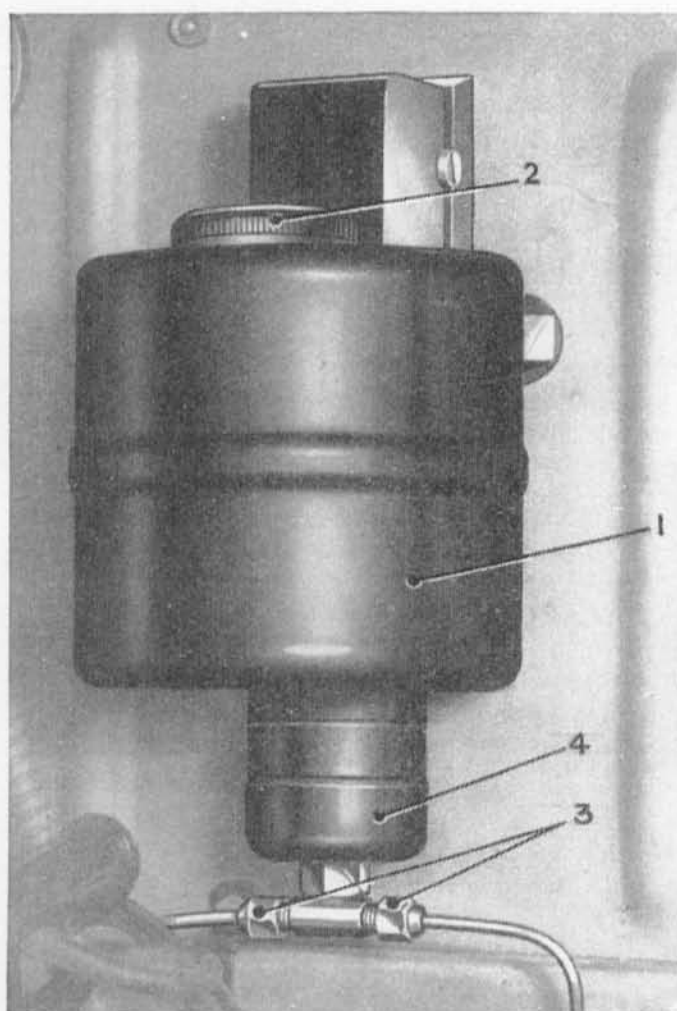

Fig. 4.—CHASSIS OIL PUMP AND RESERVOIR.
The chassis oil pump is shown in Fig. 4. Normally no attention to the system is necessary beyond filling the reservoir with the correct oil (see page 30), after removal of the filling plug (2), as directed on page 31.